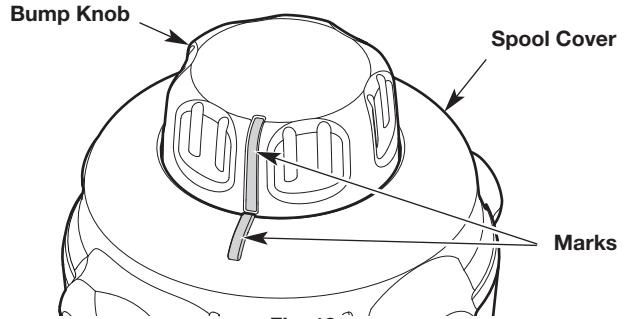

Fig. 18
3. Turn the bump knob to align the mark on the bump knob with the mark on the spool cover (Fig. 18).